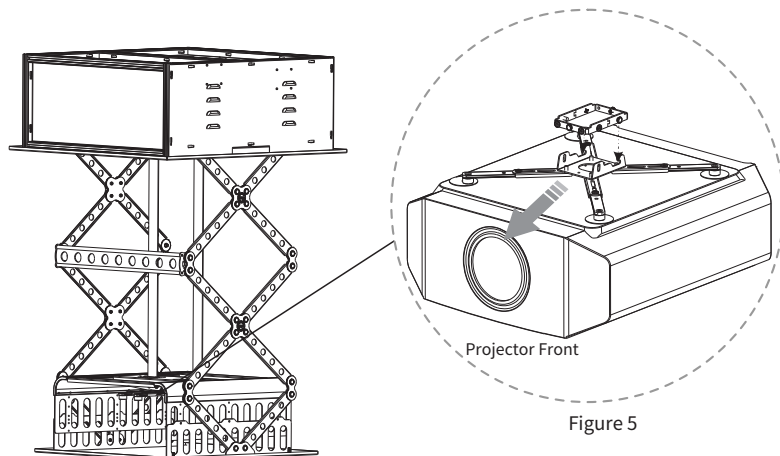

Figure 5
5. Secure the mount legs onto the projector, ensuring that the projector's orientation aligns with that of the lift; you can use an Allen key to loosen the screws on the mount legs and adjust their length for installation. After installing the projector onto the mount, hold it upwards so that the lift's rivet snaps into the universal joint (as shown in Figure 5). Once the projector's projection angle is adjusted, tighten the screws on both sides of the universal joint to secure it.